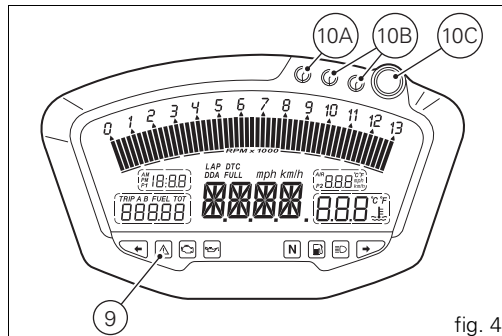

fig. 4
In the event of a sensor FAULT ( $-40^{\circ}\text{C}$ ,  $+125^{\circ}\text{C}$  or disconnected), a string of dashes " - - - " (not flashing) is displayed and the "Engine diagnosis - EOBD" light comes on (8, fig. 4).
- If reading is  $-40\text{ }^{\circ}\text{C}$  ( $-40\text{ }^{\circ}\text{F}$ ) or less, the display shows a string of flashing dashes ("—") and the "Engine diagnosis - EOBD" light (8, fig. 4) comes on;